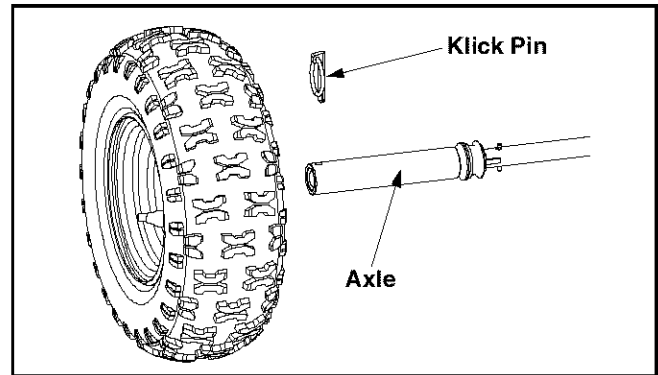

Figure 20
- Oil or spray lubricant into bearings at least once a season. Pull the klick pins and remove wheels, clean and coat axles with a multipurpose automotive grease. See Figure 20.